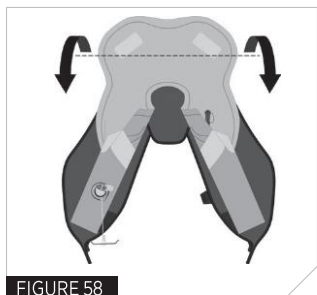

FIGURE 58
9. Fold the top of the bladder down over the pillow along fold line 9 (Fig 58).